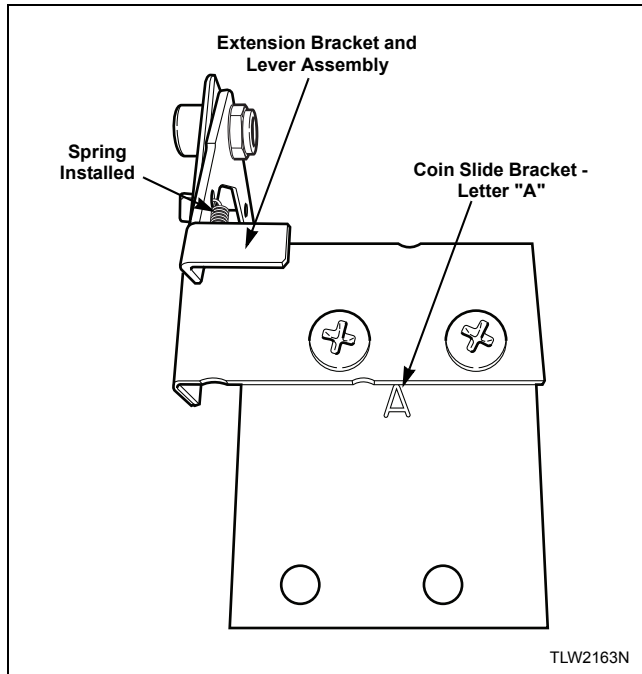

Figure 15
5. Install extension bracket and lever assembly onto coin slide bracket using two screws and locknuts. Refer to *Figure 15*.
IMPORTANT: Install coin slide bracket with side marked "A" facing up and toward extension bracket and lever assembly. Refer to *Figure 15*.